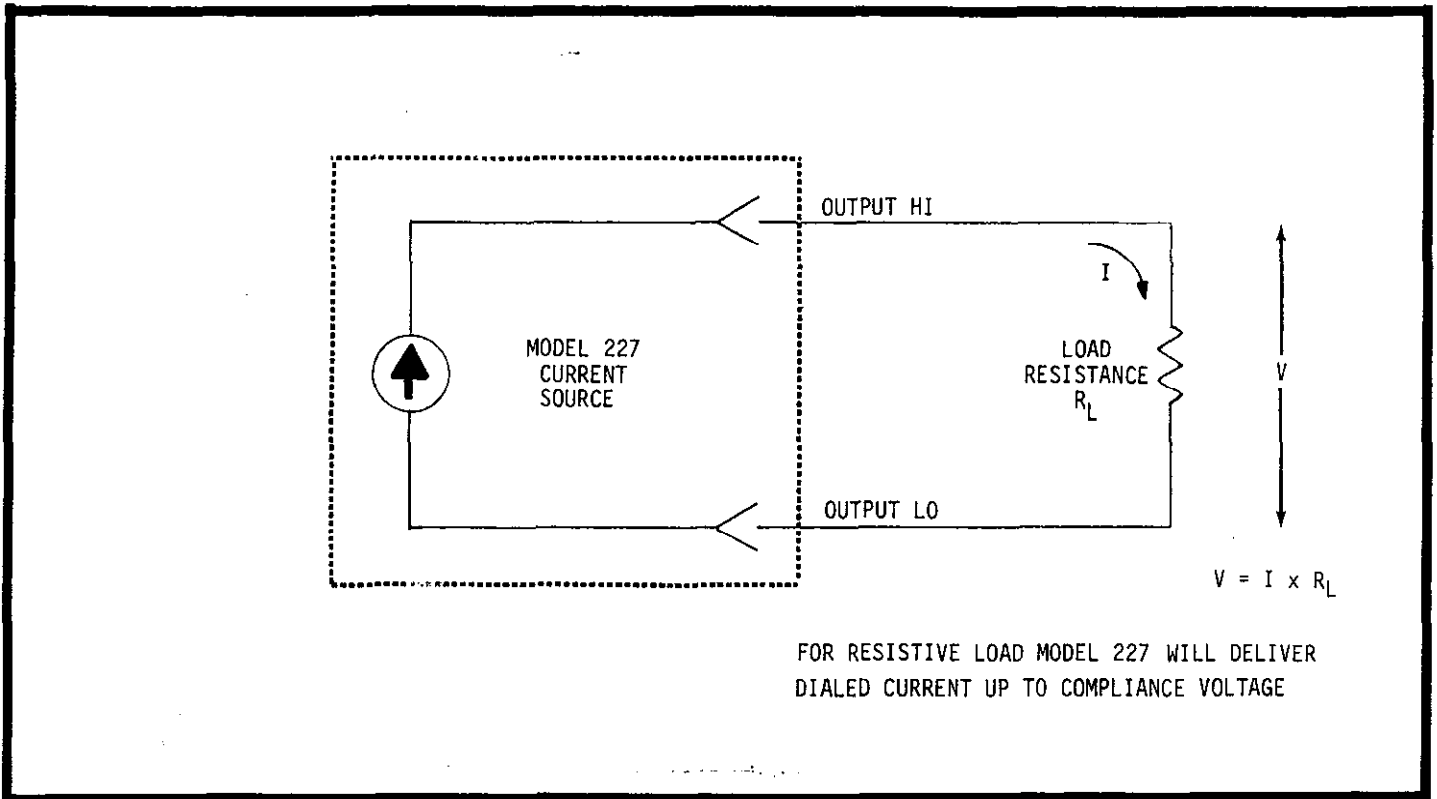

FIGURE 10. Connections as a Current Source with Resistive Load.
1. Operation as a Current Source. The Model 227 can deliver a constant current up to the compliance voltage setting. Current is set by use of the Range and Decade Dials on the front panel. With a resistive load as shown in Figure 10, the voltage developed across the load resistance  $R_L$  is:  $V = I \times R_L$ . If the compliance voltage setting  $V_c$  is less than the voltage  $V$ , then the Model 227 will automatically limit the voltage to  $V_c$  and the LIMIT indicator will be lighted.